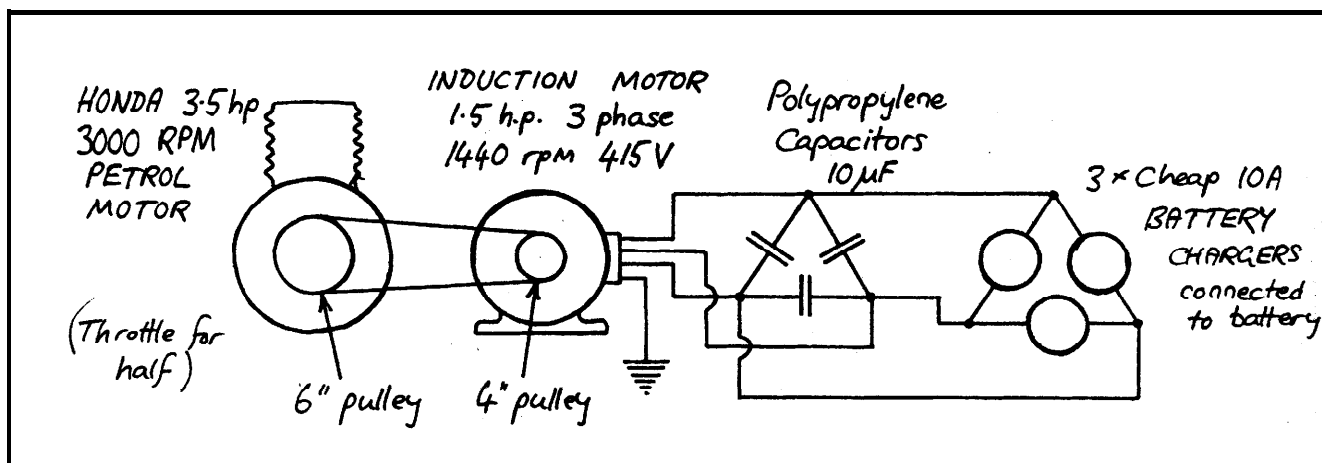

Fig 8. A practical backup generator.
16. Switch back on and play checking out the subjective performance, if satisfied disconnect and fit the cover and thread the 2 'figure 8' cables through the cord grips and install the plastic cover box and knurled cord grip nuts.
17. The amplifier should be able to drive low-impedance headphones to an ear splitting volume as well as drive speakers (4) from 4" to 8".
19. Do not short the speaker line to this power supply nor (-) common (1) ground.